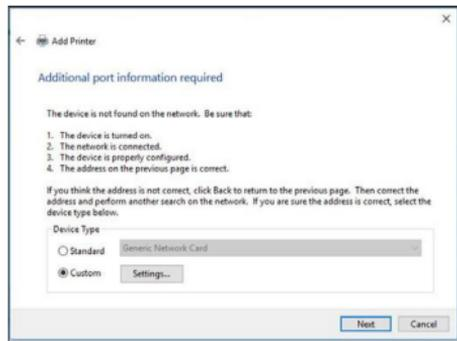

Figure 16
6. Set the **Device Standard** field to **Custom**. Select **Settings**. (Figure 16)